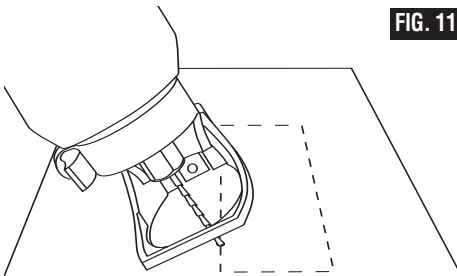

FIG. 11
Step 3: While holding the tool firmly, insert the Zip Bit into the material at a 45° angle (Fig. 11).